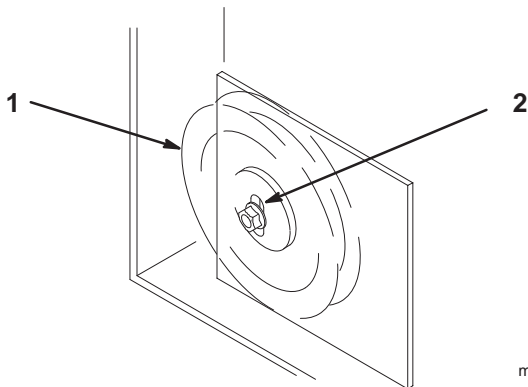

Figure 66
9. If adjustment is required, loosen the fixed idler on right support plate and move up or down in adjustment slot (Fig. 66). To relieve belt tension lift up on spring loaded idler.